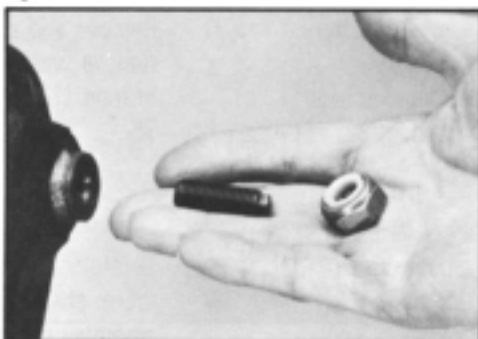

Figure 82
**Or** remove sealing nut (54A) and adjusting screw (53). Discard sealing nut. 3/4 and 5/16 inch socket required. SEE FIGURE 82.